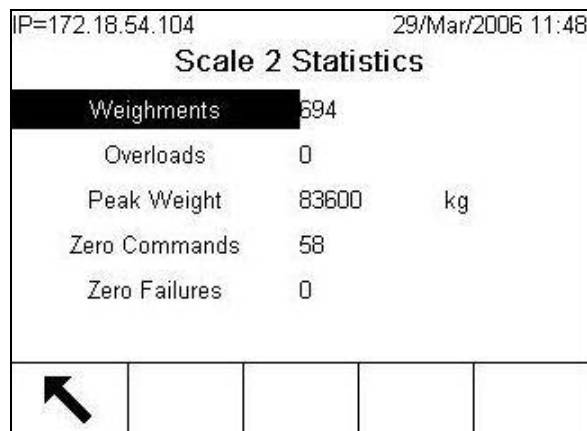

Figure 4-23: Scale Statistics Screen
- **Statistics**—Displays statistical information for each scale such as the total number of weighments, the number of scale overloads, the peak weight weighed on the scale, the total number of zero commands, and failed zero commands (Figure 4-23). These are very helpful when diagnosing scale problems. These statistics accumulate for each scale, and are saved until a master reset is performed. It is not considered likely that a master reset will be a frequent occurrence, so these statistics are effectively permanent.